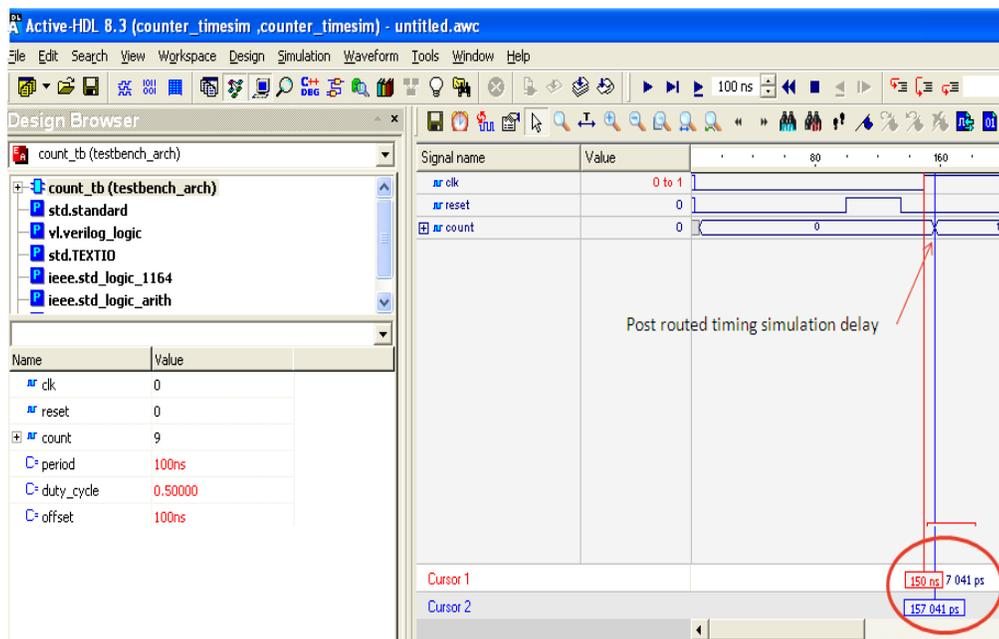

Figure 10-26: Timing Simulation Waveform
- Type the command “run 1000ns” in the console and press enter. The 1- μ s simulation waveform will show up in the waveform window. The counter output timing delays with respect to clock positive edge is shown in Figure 10-26.